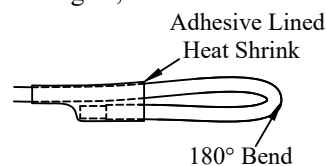

Figure 8: Sealed Wire End
- 6. Seal** the remaining white and brown blunt-cut wires as shown (Figure 8).
X Indicates wire is sealed away and not used (Figure 8).